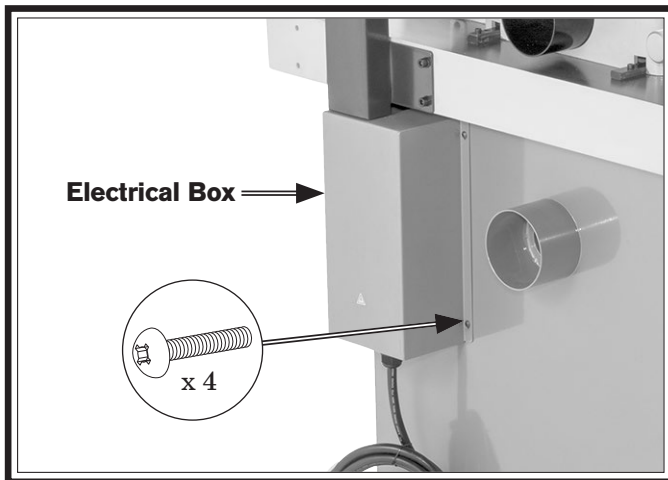

Figure 26. Location of electrical box and Phillips head screws.
11. Remove (4) Phillips head screws and electrical box shown in **Figure 26**).